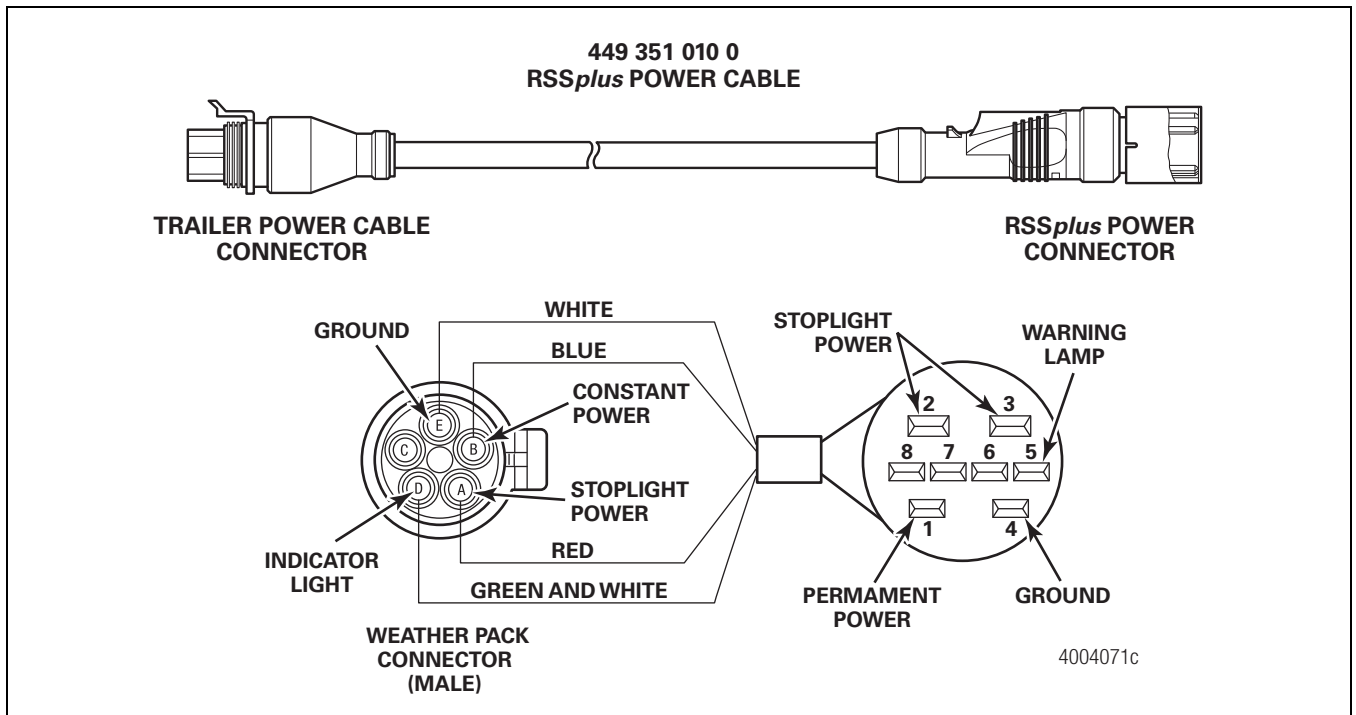

Figure 12
NOTE: If you are routing this cable to a junction box, or if it is necessary to cut the cable, please contact WABCO North America Customer Care at 855-228-3203 for assistance. Refer to the pinout information in Figure 12 for additional cable information.
7. Plug the five-pin Weather Pack connector into the ABS dropout of the mating receptacle on the main trailer harness. Figure 12.